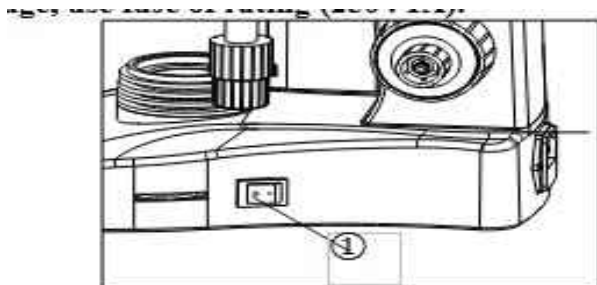

Fig.8
2.2.5 Connecting the power cord(Fig.8, 9,10)
2.2.6 Replacing the Fuse (Fig.8、 9、 10)